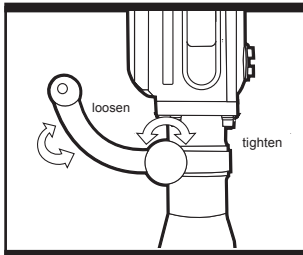

Fig. 3
4. FITTING THE AUXILIARY HANDLE (Fig. 3)
Attached the handle as shown in Fig. 3.